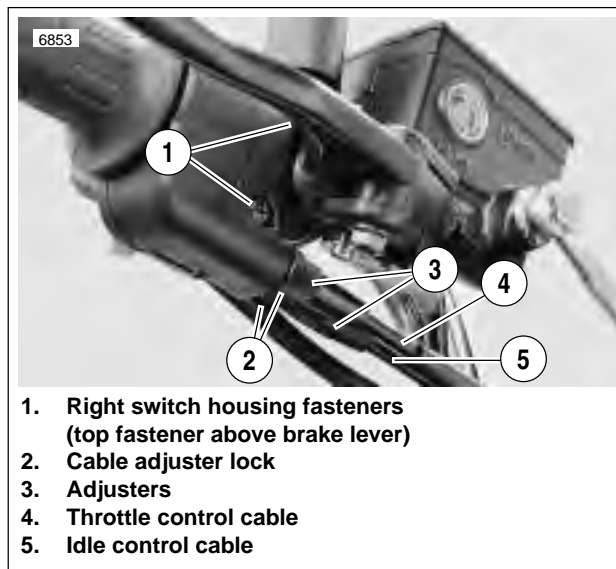
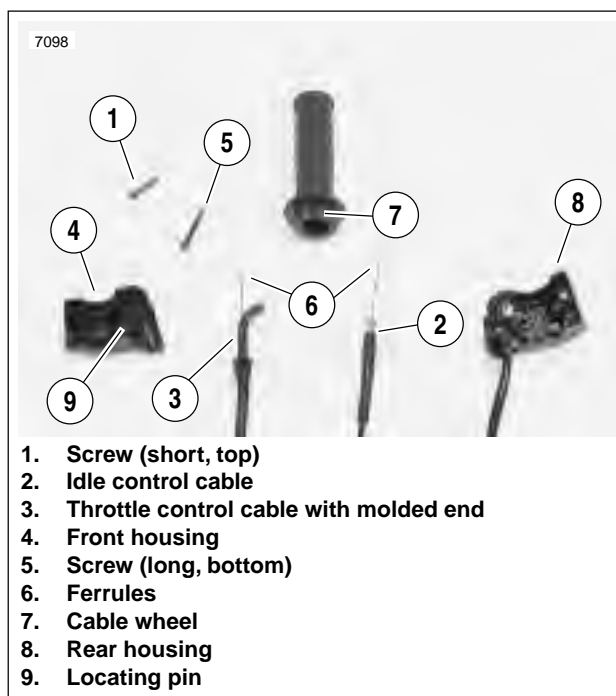

Figure 2-88. Throttle Control Cables
Figure 2-89. Cable Connections
1. See Figure 2-88. Loosen cable adjuster lock (thick disc) (3) on each cable.
2. Turn adjusters (3) in direction which will shorten cable housings to minimum length.
3. Remove fasteners (1) on right switch housing and separate housing from handlebar.
4. See Figure 2-89. Remove cables (2, 3) from notches in front housing (4).
5. Remove cables (2, 3) and ferrules (6) from cable wheel (7).
3. Install throttle grip and position ferrules (6) into cable wheel (7).
7. See Figure 2-88. Attach rear switch housing and position housings on right handlebar by engaging locating pin on front housing with hole in handlebar. Attach housings with two fasteners, installing longer fastener on bottom. Tighten to 25-33 **in-lbs** (3-4 Nm).